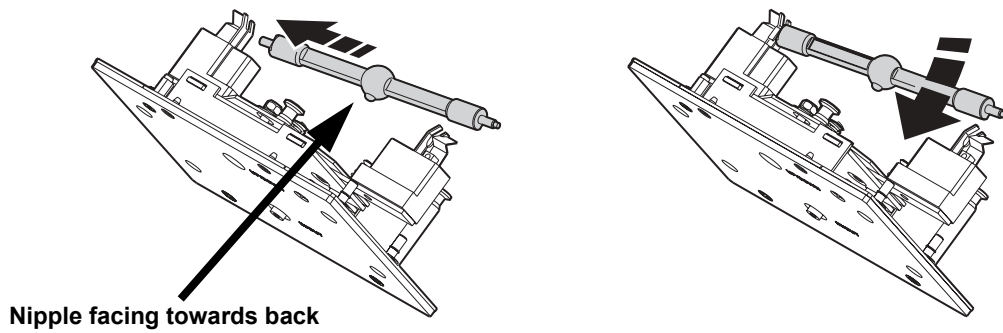

**Figure 3: Lamp insertion**
4. With the nipple on the replacement lamp facing towards the back as shown in Figure 3, insert the left pin into the socket. Push down on the right-hand spring and snap the pin into place.